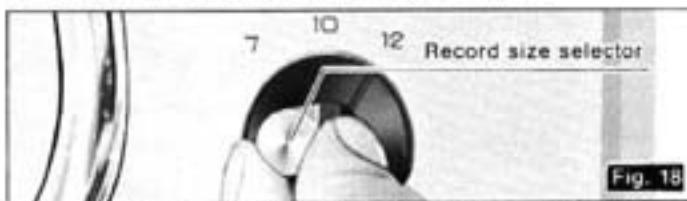

Fig. 18
- Set the record size selector knob to the diameter of the record (7, 10 or 12") you wish to play. (See Fig. 18).